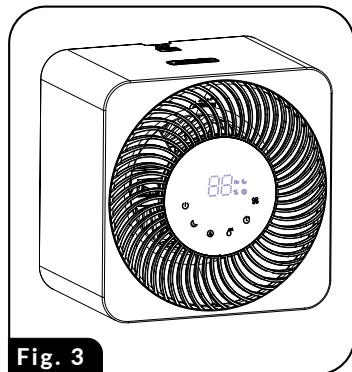

Fig. 3
9. Monitor the level of water in the tank daily using the indicator (9) and refill if needed. Once the water tank is empty, the humidifier continues operating for several hours in order to completely dry the filter and prevent the proliferation of mould and bacteria after it is deactivated. This is initially indicated by two flashing, horizontal bars on the LED display (for 7 hours, at average fan speed) and then by continuously on horizontal bars (for 10 hours, at low fan speed).
12. The humidifier can work as a typical fan, without a water tank. Place the fan on its side with the power supply port facing up as shown in Figure 3 and point it in the appropriate direction as needed. The fan function is turned on after turning the fan on with the switch (2a) and pressing and holding the airflow speed button (2f) - this way you will force the fan to work (without checking the presence of the water container). The device is turned off when the button (2a) is pressed again.